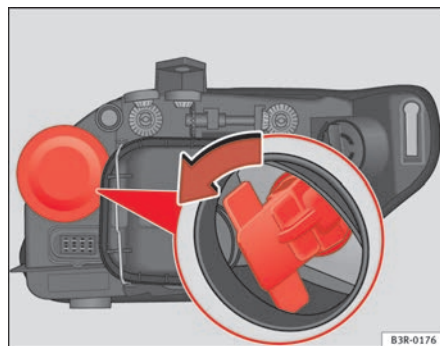

Fig. 204 Turn signal
- Remove the bulb holder by pulling on the grip and turning it anti-clockwise ⇒ fig. 204.